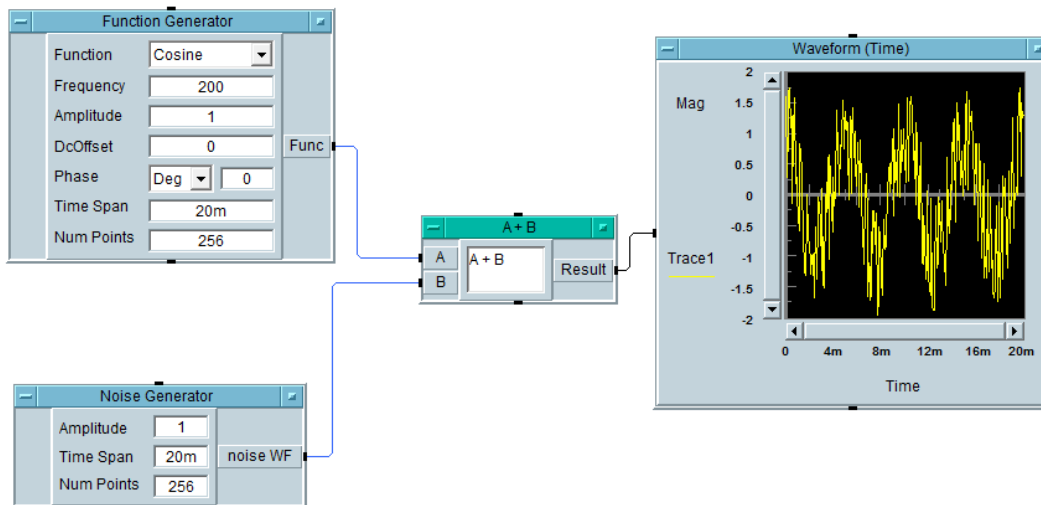

Fig. 9. Displaying a noisy waveform
- Connect the data output pins of Function Generator and Noise Generator, (**Func** and **noise WF**) to the data input pins of the **A+B**. Then connect the data output pin of the A+B (**Result**) to the data input pin of the Waveform (Time) as in Fig. 9 and run the program. You will display a cosine waveform which is distorted by some noise.